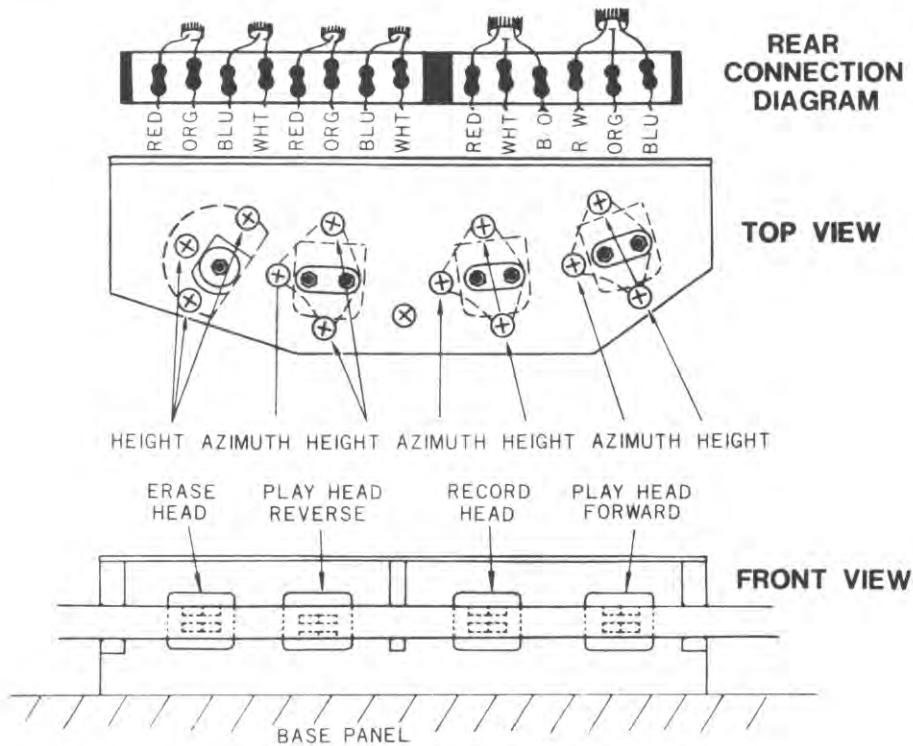

FIG.7 HEAD ASSEMBLY
2. Locate the wires from the defective head and note the points to which they are soldered. Refer to Figure 7.
7. Head height is adjusted at the factory to very critical tolerances. Normally head replacement would not disturb the height adjustment. If highly critical adjustment is required, refer to Figure 7. Adjustment is made with the 3 screws holding the head plate to the top plate.
5. Play a 12 or 15 KHz tone and turn azimuth adjustment screw (Figure 7) of the forward playback head until a maximum peak is obtained on the VTVM.
6. Depress the  button and turn azimuth adjustment screw (Figure 7) of the reverse playback head for maximum peak on the VTVM.
2. While recording a 15 KHz signal on the tape, set the LINE input control so the VTVM reads -15 to -20 dB below normal operating level. Adjust the record head azimuth screw (Figure 7) for maximum output.